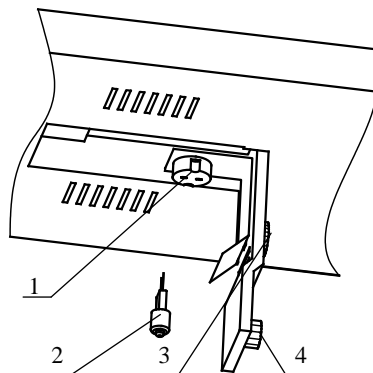

Figure 11
1. Disconnect the power plug and **wait to be sure the bulb is cool**. Open the lamp door using the lamp door retaining screw as shown in Fig. 11.